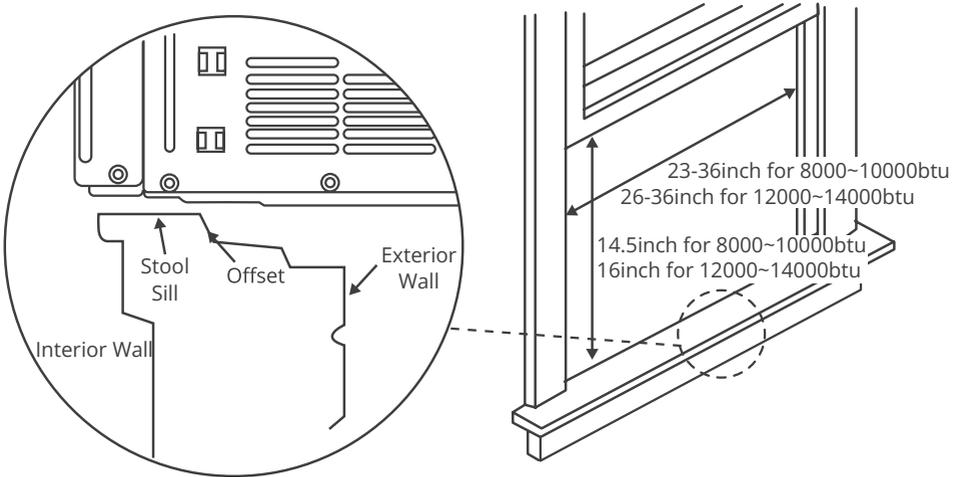

Fig.1
- The Lower Sash (the lower part of the window that moves up and down) must allow for 14.5" of vertical clearance when open, for 8000btu~10000btu. (See Fig.1).
for 16" of vertical clearance when open, for 12000btu~14000btu. (See Fig.1).